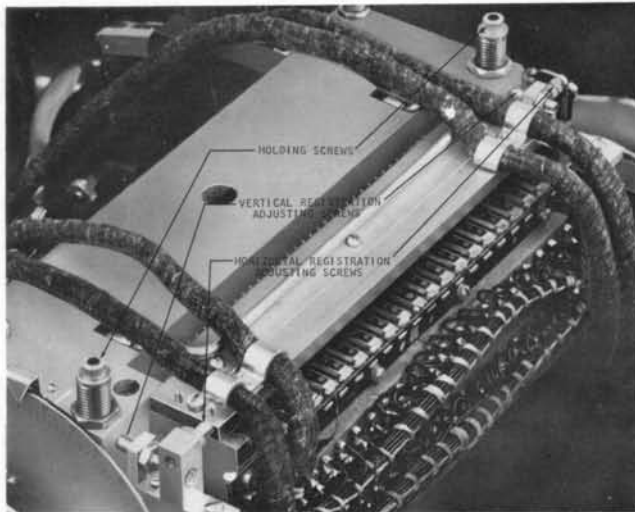

Figure 51. Punch Unit Adjusting Screws
1. Remove the four top holding screws for the punch unit (Figure 51).
a. Loosen the four holding screws on top of the punch unit (Figure 51).
b. Loosen the locknut on the horizontal adjusting screw and turn the adjusting screw in the proper direction to permit shifting the punch unit in the direction required to correct the horizontal registration (Figure 51).